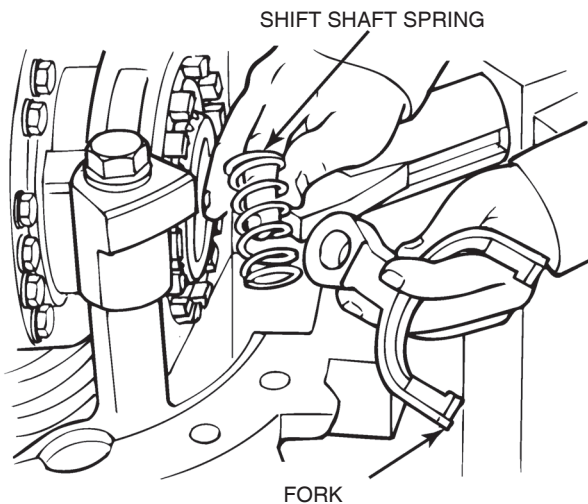

Figure 6.11
10. Remove the shift shaft spring and fork from the differential. Figure 6.11.